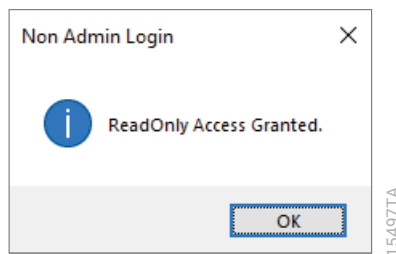

Figure 63. Non Admin Login notification.
1. Incorrectly entered passwords result in a Standard user login. The 'Administrator Login' window closes and a "ReadOnly Access Granted" dialog box opens (Figure 63). To attempt the login again, close the 'Administrative Tools' window. Select the **Configuration Settings** icon and follow the instructions for an Admin user login.